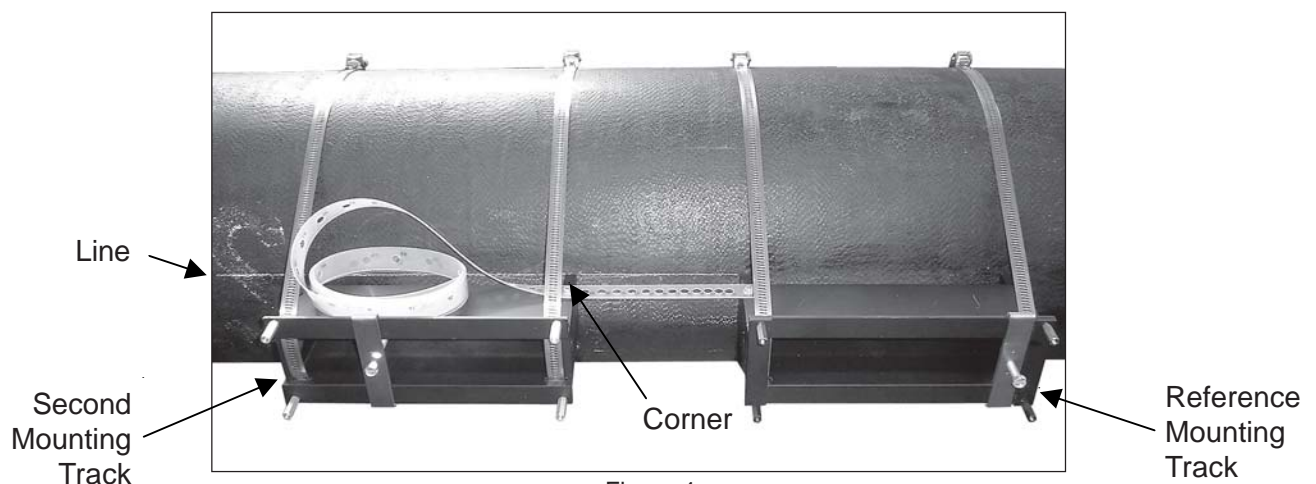

Figure 4
- Install second mounting track assembly keeping securing straps loose (Figure 4). Rotate the second assembly until its nearest corner aligns with the Reference Mounting Track and the line drawn in the previous step.